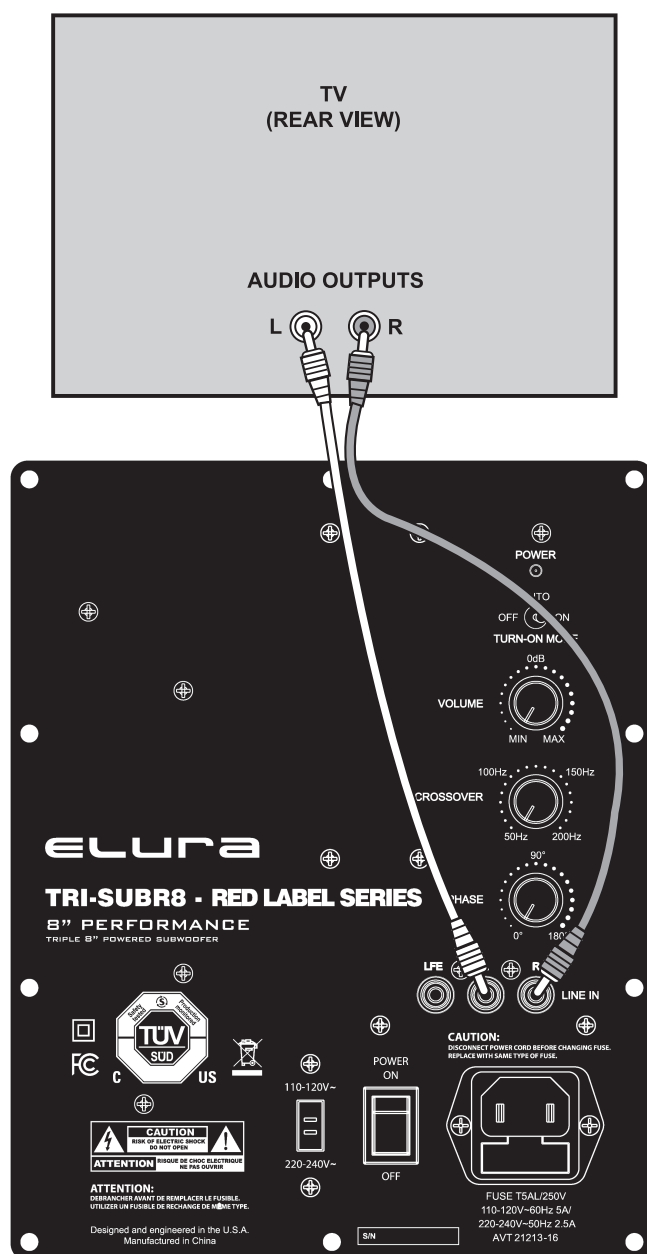

FIG.5 – Method C, Line Level Hook-up with Flat Panel TV
3. **Connection to flat-panel TV.** If you have a flat panel TV with stereo analog audio outputs, use Method C as shown in Fig. 5.
(Refer to Fig. 5 below)